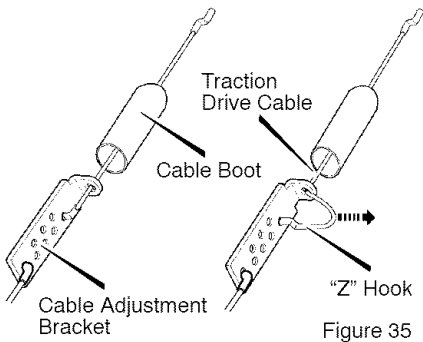

Figure 34
3. Loosen the **bolts** on each side of the **bottom panel** (see Figure 34).